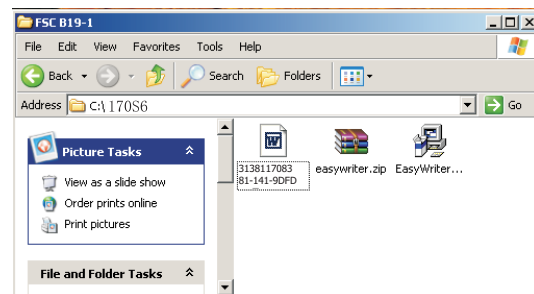

Fig. 5
Step 5 :Copy the hex file to C:\200W6 as shown in Fig. 5 .